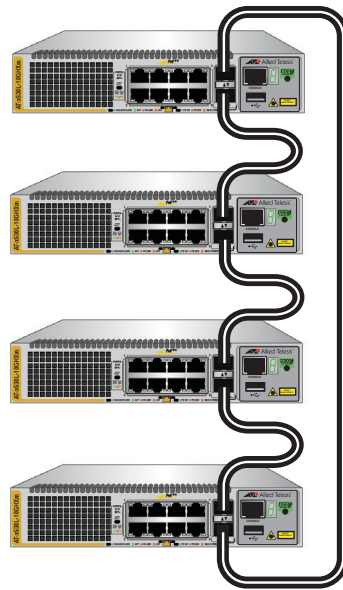

Figure 22. Valid Stack Trunk Using Default Stacking Ports 17 to 18 on 18-Port x530L Switches
- See Figure 22 on page 64 for Valid Stack Trunk Using Default Stacking Ports 17 to 18 on 18-Port x530L Switches.
Figure 22 shows examples of stack trunks for two, three, and four switches, using the default stacking ports 17 and 18 on 18-port x530L-18GHXm switches.